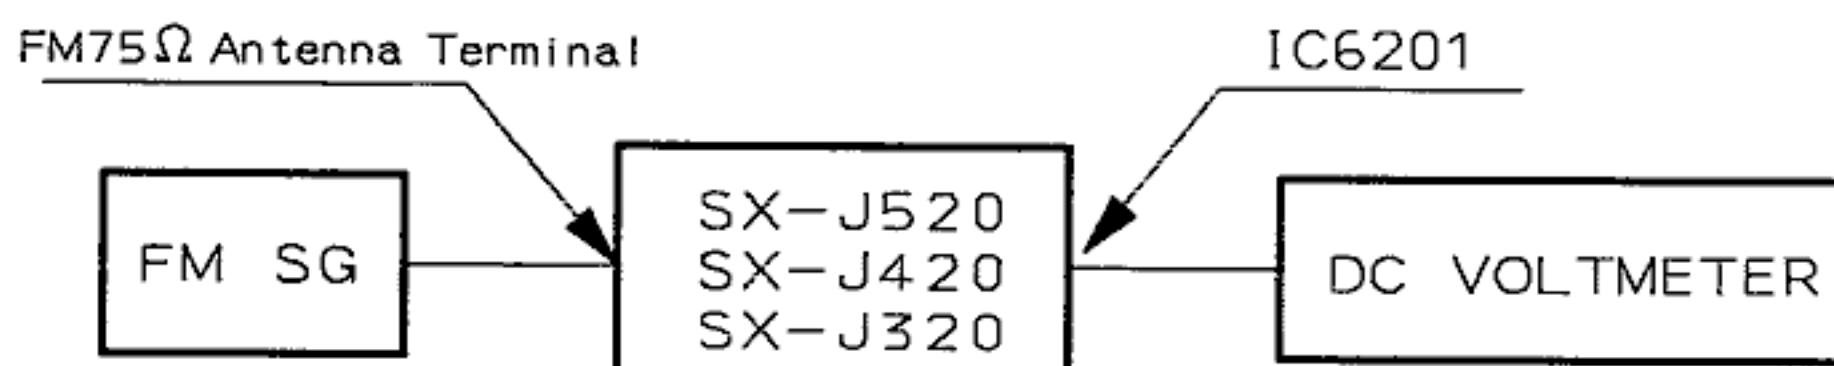

Fig. 4-1-1 FM Adjustment Connection Diagram
- Connect the wiring as shown in Fig. 4-1-1.